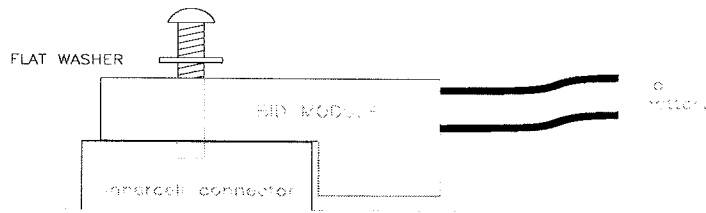

FIGURE 4
- Attach the BID module to the intercell connector using the holes drilled in step 4b. Use the 2 #6-32 x 3/4" screws and 2 #6 flat washers provided. See figure 4.